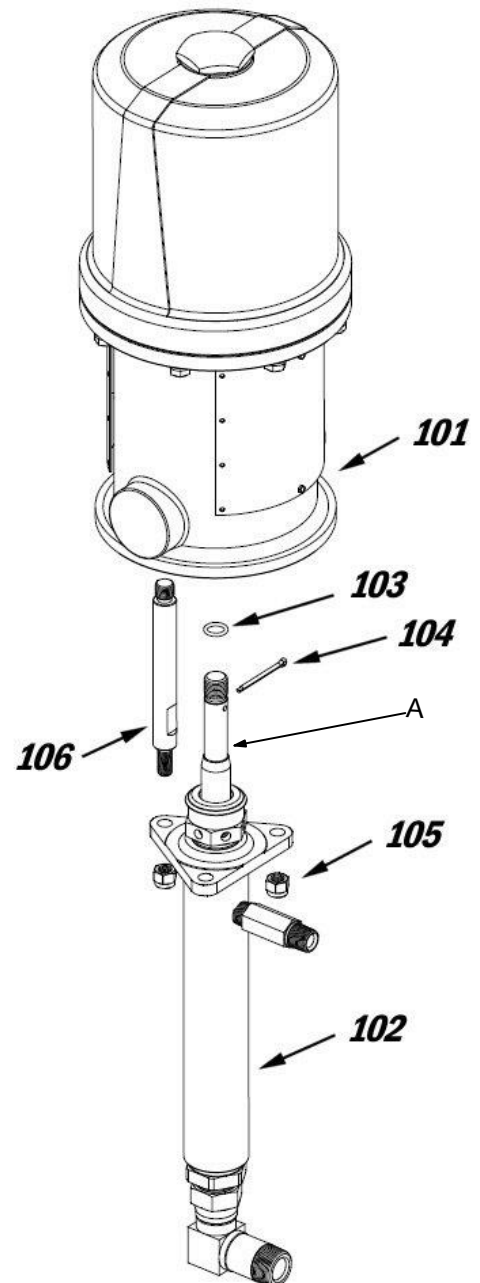

Fig. 3
3. Unscrew the tie rod locknuts (105) from the tie rods (106). Remove the cotter pin (104). Unscrew the displacement rod (A) from the air motor (101). Carefully pull the displacement pump (102) off the air motor (101). See Fig 3.
1. Screw the displacement rod (A) into the base of the air motor (101). Install the cotter pin (104). Orient the pump's fluid outlet to the air motor's air inlet as was noted in step 2 under **Disconnecting the Displacement Pump**. See Fig 3.
2. Position the displacement pump (102) on the tie rods (110). Screw the locknuts (106) onto the tie rods (110) loosely.
3. Mount the pump and reconnect all hoses. Reconnect the ground wire if it was disconnected during repair. Torque the packing nut/wet-cup (4) to 24–27 N.m (18–20 ft-lb ). Fill the wet-cup with Storm Machinery Throat Seal Liquid or compatible solvent.
4. Tighten the tie rod locknuts (106) evenly, and torque to 34–41 N.m (25–30 ft-lb).